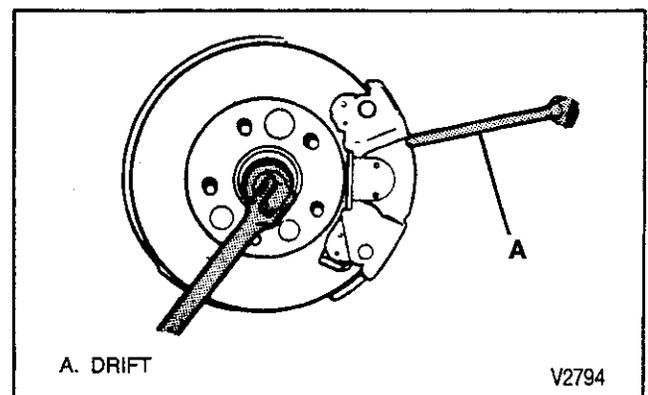

Figure 6—Holding Shaft in Place
- Insert a drift or large screwdriver through the brake caliper into one of the brake rotor vanes to prevent drive axle from turning (figure 6).